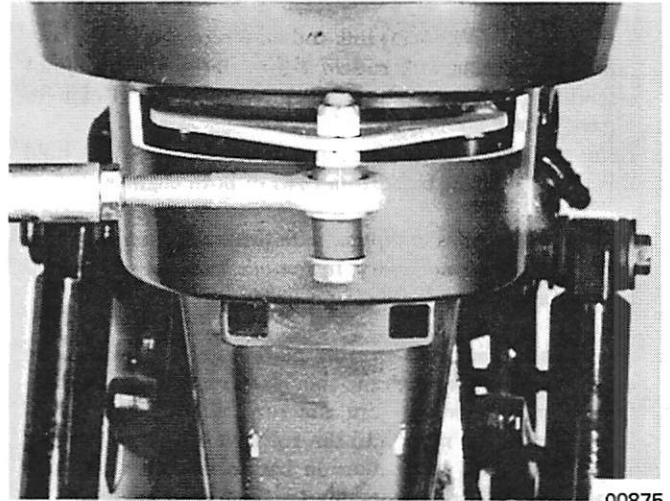

Figure 2. Balljoint and Steering Plate Installed Right (Starboard) Engine
8. Attach ball joint to steering plate on right (starboard) engine. (Figure 2)